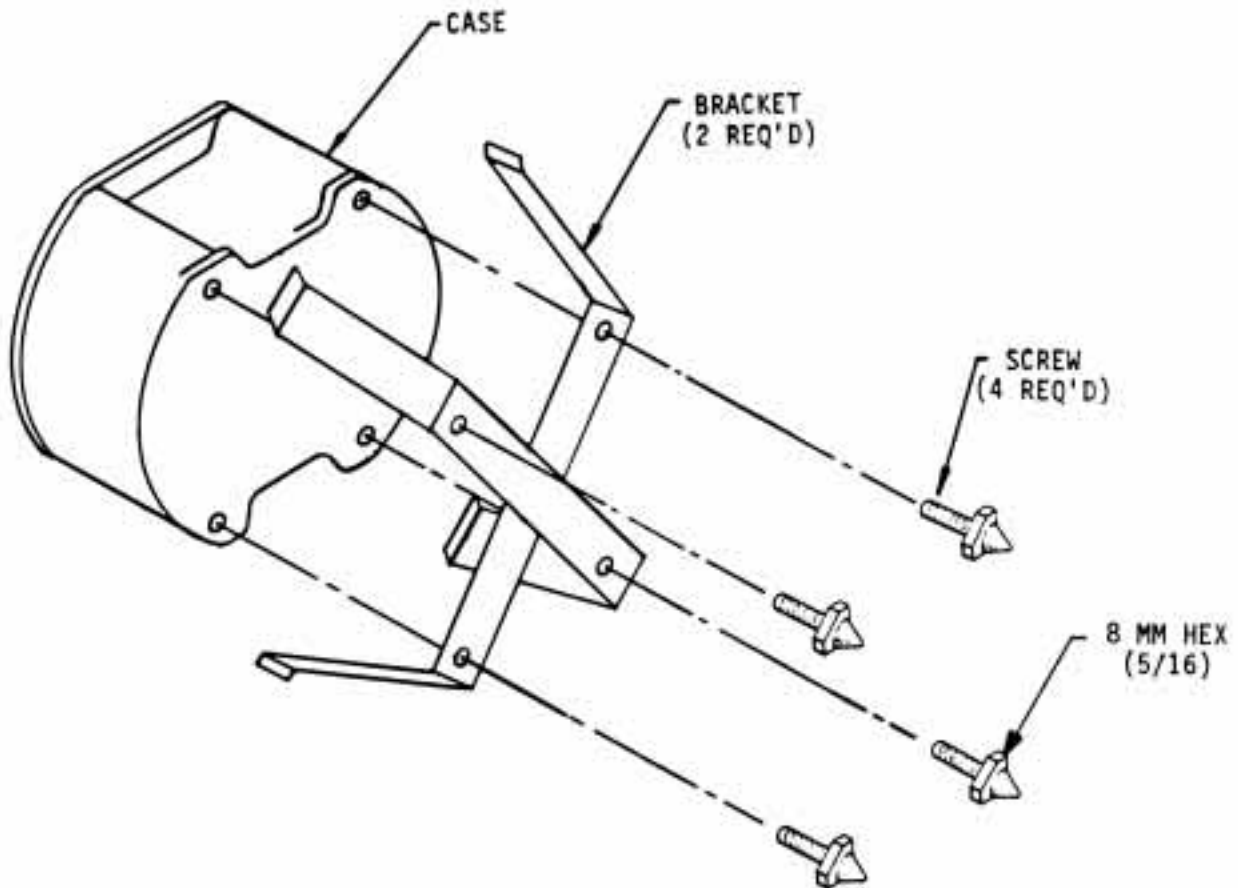

Figure 4.4 Spring Retainer for Explosion-Proof Housing
- c. Spring retainers for external 76.4 to 88.9 mm (3 to 3.5 in) explosion-proof housing mount (see Figure 4.4).